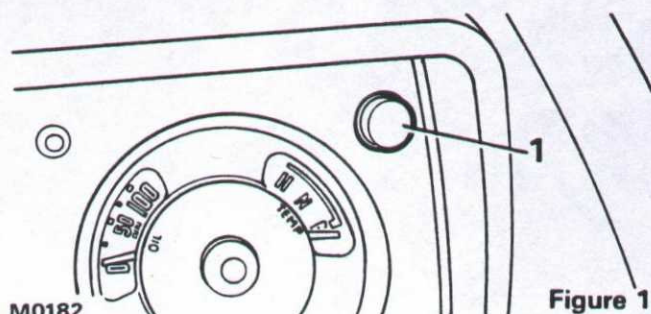
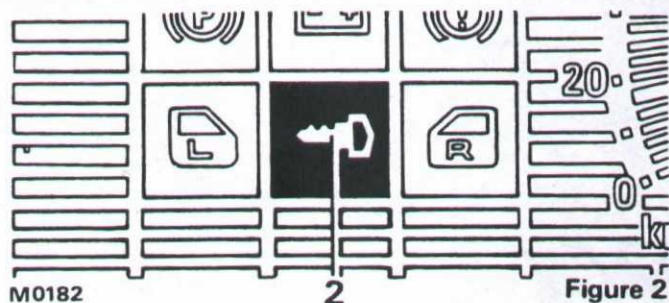

Figure 1
Figure 2
(1) Screw remover Tool CBW200 into seal, refer Fig. 1 then tighten screw portion of tool 18G389 to withdraw seal.
(2) To install a new seal, place a seal in opening of pump housing (lip side facing inward). Using Tool CBW202 drive seal into housing until tool bottoms, refer Fig. 2.
Note: On FX4S models a red warning light is fitted in the top right hand corner of the fascia, see 1 figure 1. On FX4S Plus models a key symbol is used and is located at the bottom centre of the warning lights, see 2 figure 2.